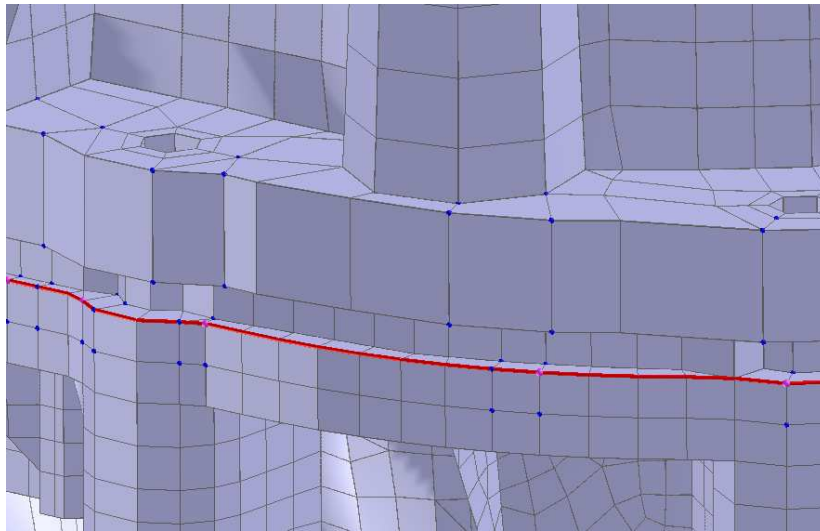

Figure 5.37: Seam 1.
- Choose the nodes in the path of the seam to be created. To select a node: Left-click on the node with the *shift-key* held down. Note: You should only select nodes on the corners of the elements, not mid-side nodes. Once three or more nodes are selected the seam connecting these nodes is drawn if *Coustyx* finds a valid path. Seams are constructed based on the shortest path identified by *Coustyx* while connecting all the selected nodes. See Figure 5.37.